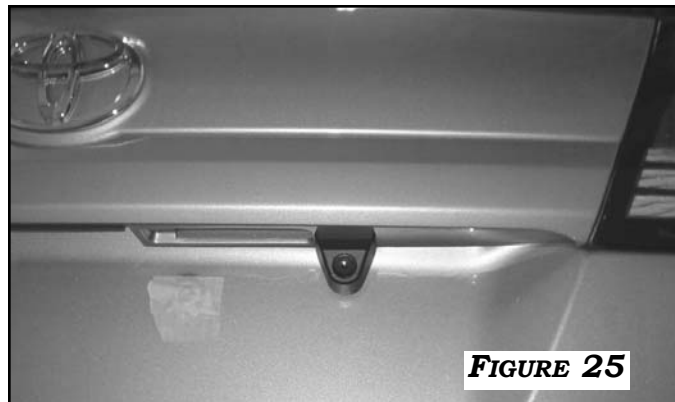

FIGURE 25
1. REINSTALL TRIM PIECES TAKING SPECIAL CARE TO ENSURE HARNESES AND WIRING CONNECTIONS ARE PROPERLY SECURED. Figure 25